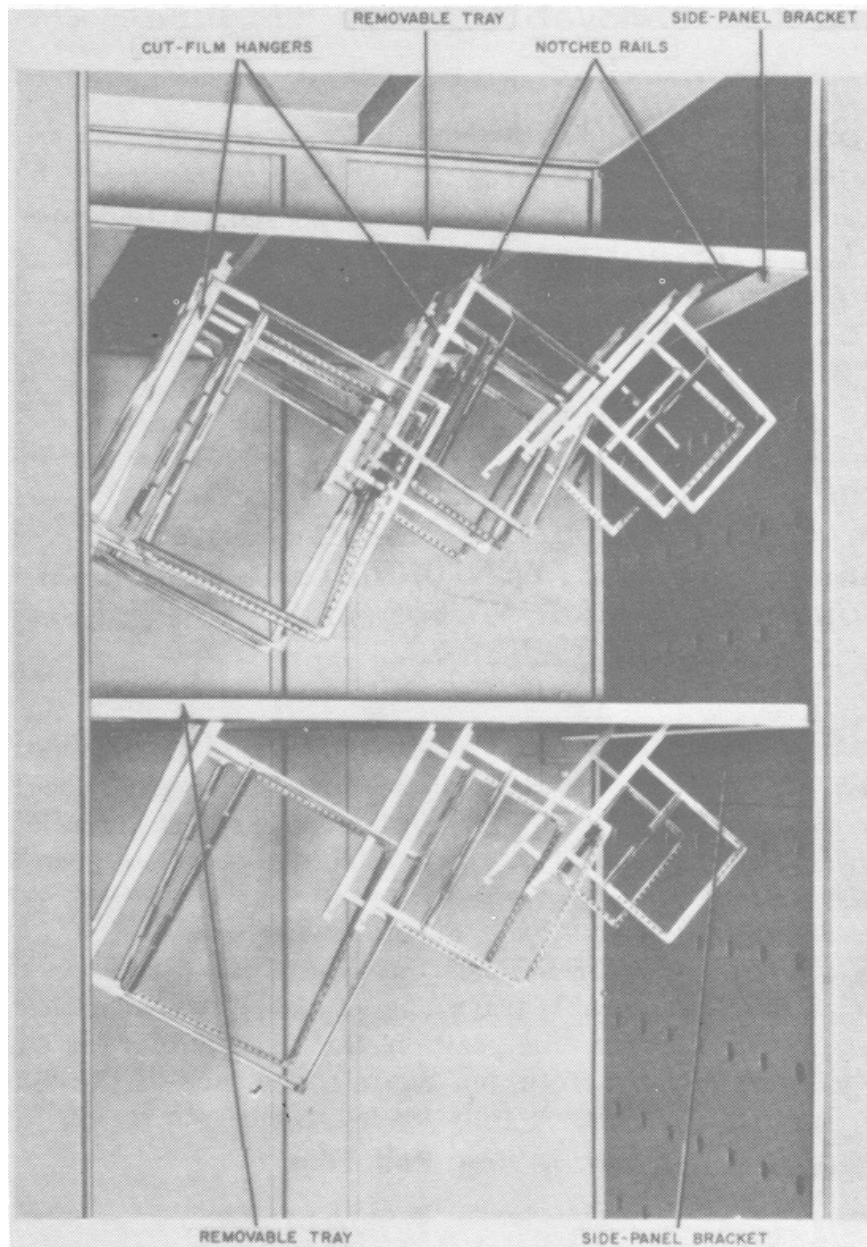

FIGURE 3-7. Cut film hangers suspended from notched rails.
a. Lift the two removable trays (figure 3-7) from the cabinet.
d. Hook the cut film hangers onto the notched rails on the underside of the removable trays (figure 3-7). Be sure that each hanger is set into a notch. In this position, the air flow hits the edges of the film and is across, not against, the face of the film.